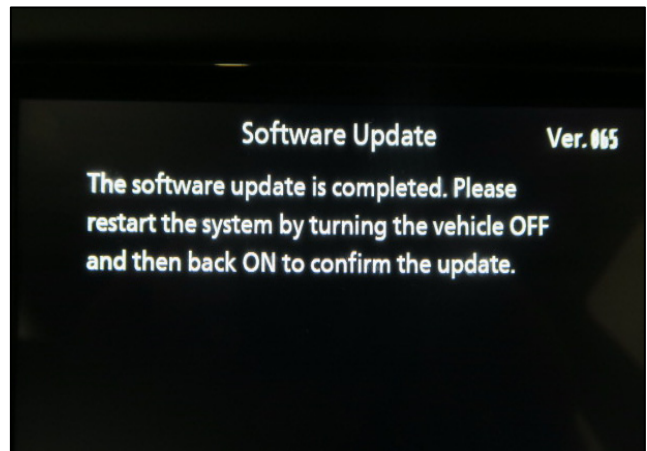

Figure 17
24. When the message shown in Figure 17 is displayed, remove the USB drive from the USB media port.
NOTICE Do not remove the USB drive until Figure 17 is displayed. If removed prior to this screen being displayed, the Audio Control Unit may be damaged.